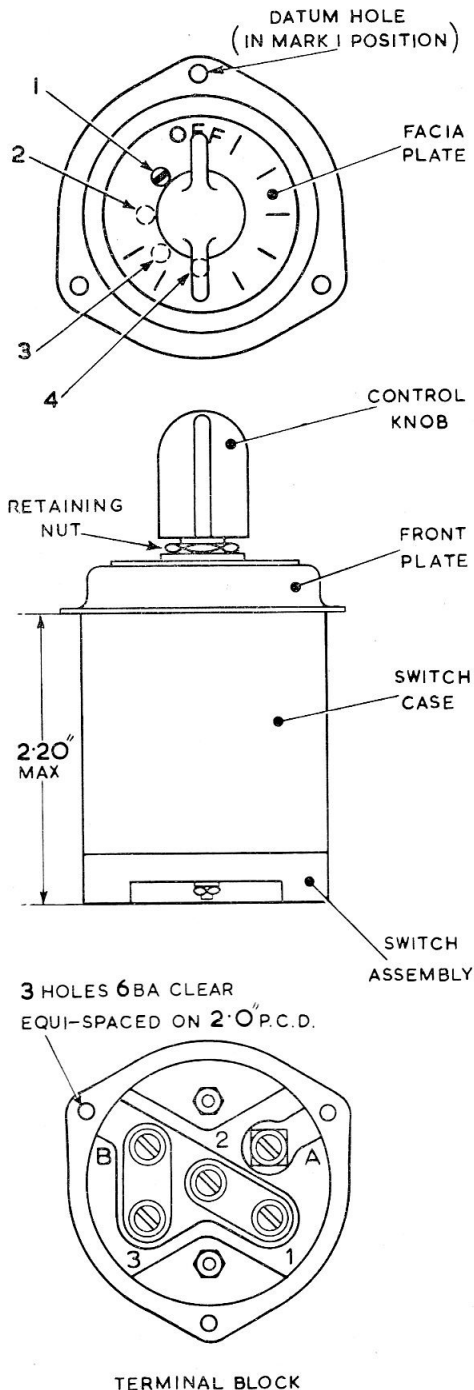

Fig. 2. Plan and elevation views of switch
4. Referring to figure 2, the suffix mark number is determined by the angular position of the datum hole relative to the "off" position. To select a switch for any particular aircraft it may be necessary to alter the suffix mark number and letter; this is achieved by repositioning the front plate to the mark number required and re-arranging the links at the terminal block to suit the required suffix letter.
5. To reposition the front plate (fig. 2), remove the finger knob, loosen the centre retaining nut and rotate the front plate so that the locating lug of the wafer switch protrudes through the same number reference hole as the mark number required. The mark number, together with their corresponding degrees of angular difference is as follows:—